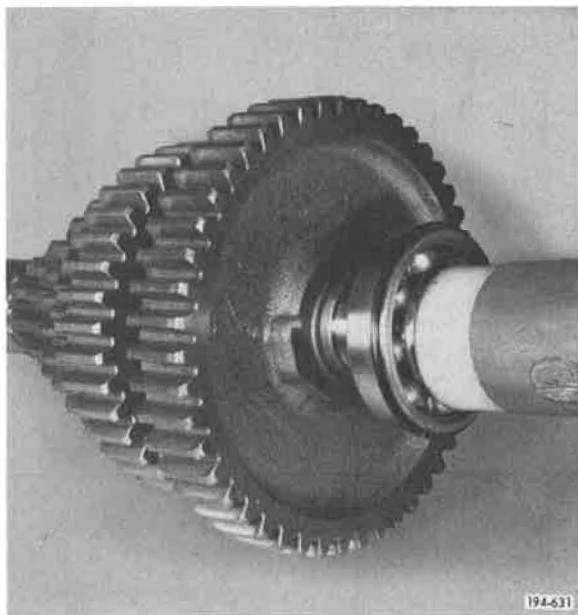

Figure 5-901. Installing Bearing
6. Install front countershaft front bearing, being careful to apply force to the inner race only. A soft mallet or suitable driving sleeve may be used. See **Figure 5-901**.